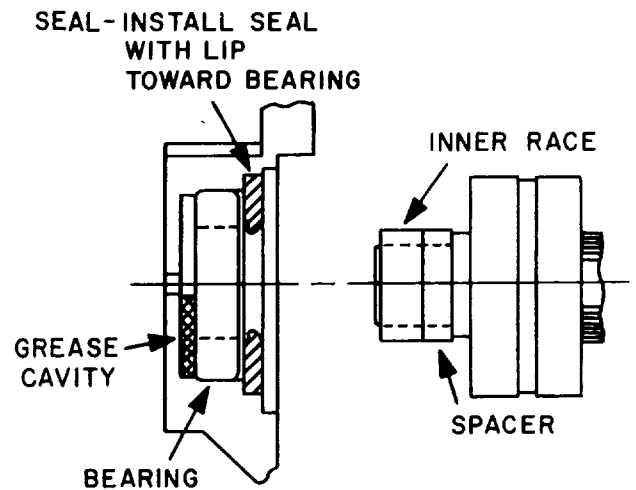

Figure 12
3. Install the slip ring end bearing and oil seal. Make sure the lip of the oil seal is toward the bearing. Correct assembly of bearing, seal, inner race and spacer is shown in Figure 12.